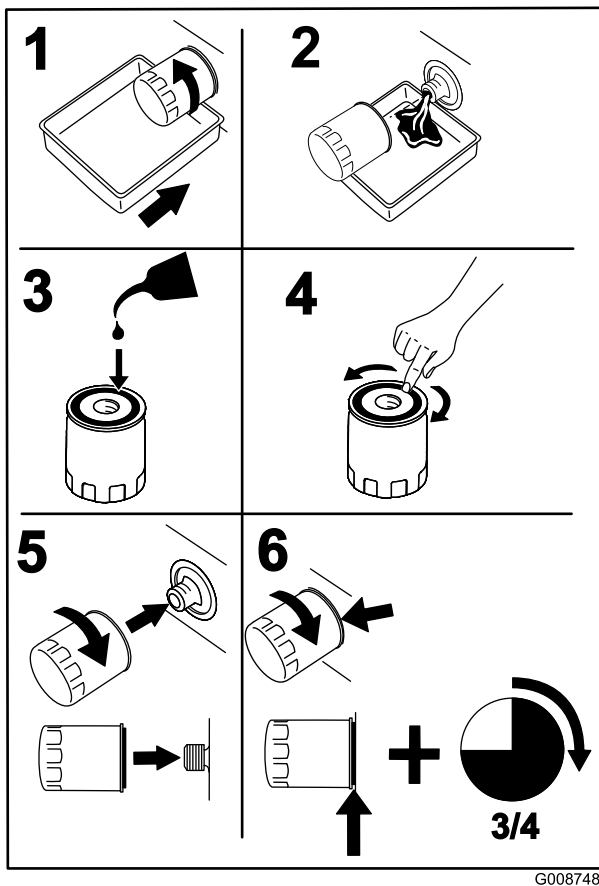

Figure 44
2. Change the engine oil filter (Figure 44).